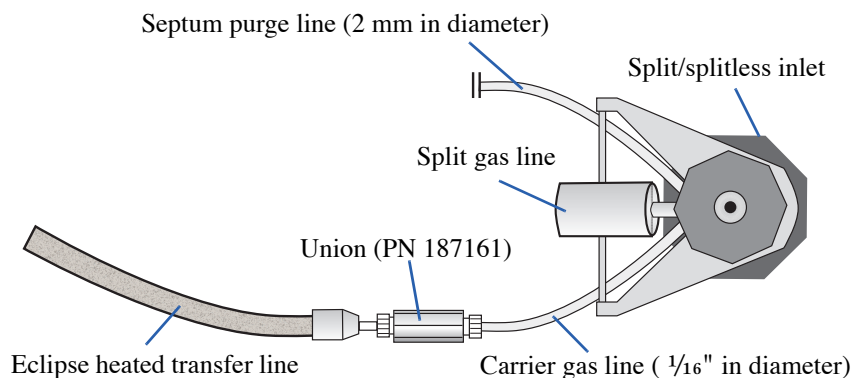
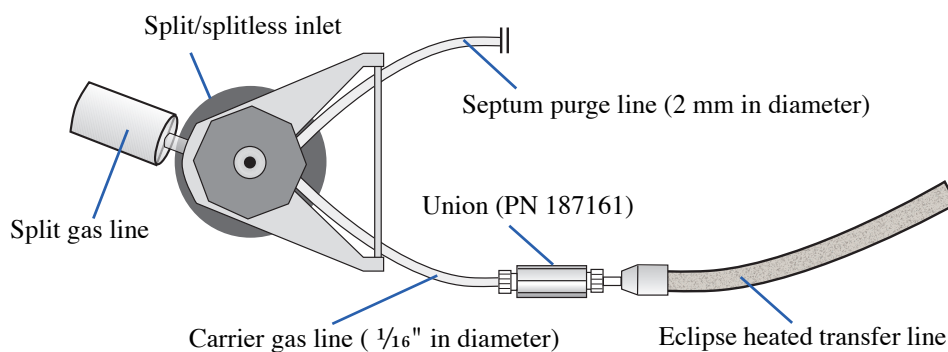

Figure 3.23. Top view of a split/splitless inlet for an Agilent 6890 GC
Figure 3.24. Top view of a split/splitless inlet for an Agilent 7890 GC
For the Agilent 6890 or 7890 GC split/splitless inlet, always cut the 1/16"-O.D. line. Do not cut the 2-mm O.D. line. Depending upon where the GC was manufactured, the 2 mm and 1/16" lines may be in the relative positions shown in Figure 3.23 or Figure 3.24, or they may be reversed.
1. Locate the two gas lines visible at the top of the split/splitless inlet. On the Agilent 6890 or 7890 GC, the septum purge line is 2 mm in diameter and the carrier gas line is 1/16" (see Figure 3.23 for an Agilent 6890 GC or Figure 3.23 for an Agilent 7890 GC).